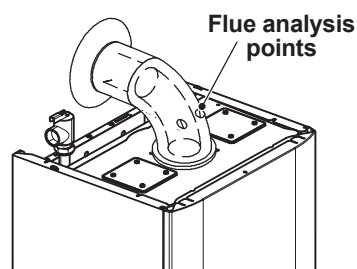

Figure 15.8
- Connect a flue gas analyser to the flue analysis point on the boiler exhausts Figure 15.8.